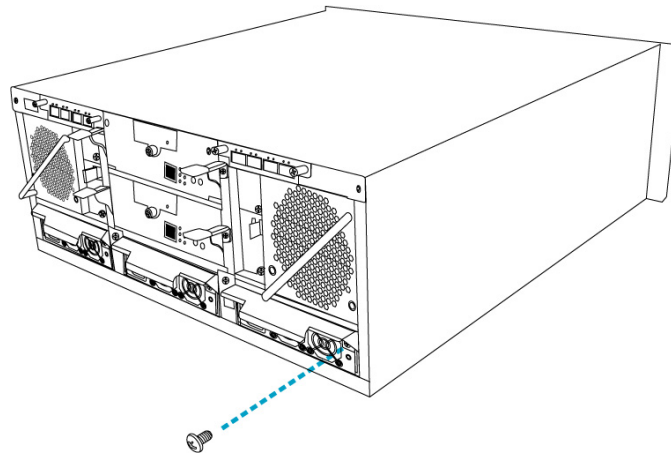

Figure 5-7: Removing the PSU Retention Screw
- Step 2. **Remove the retention screw** located on the right side of the PSU. (See Figure 5-7)